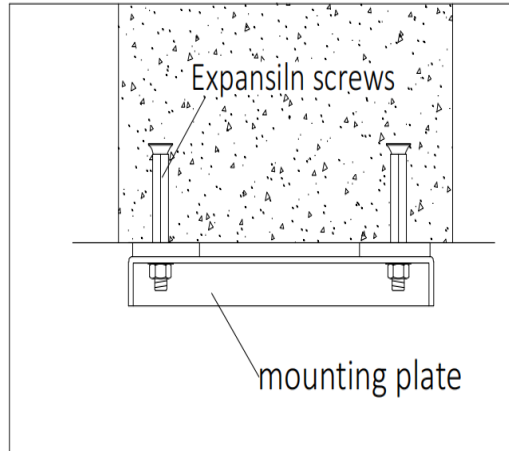

Fig.2
1. Concrete ceiling: Drill two holes with an appropriate depth by a drilling bit with diameter 8MM, and insert 1 piece of expansion screw to each hole, then fix the mounting bracket into the expansion screws, and tighten it with the nuts of expansion screws. (Fig.2)